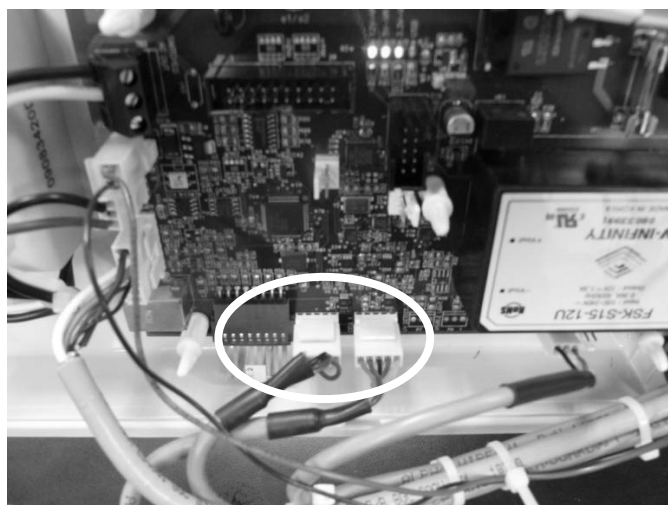

Figure 2
2. Open the TOC Sensor door, and re-connect C1 and C2 to the electronics board as shown in Figure 2.